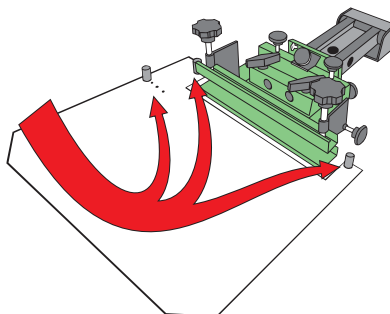

Figure 22: Install the pallet jig onto your press. Note the jig has screen stops that match the stops on the Exposit exposure unit.
8. The next part of the system uses a pallet jig. This is snapped on top of the standard pallet. It provides the same three stops that were on the glass of the exposing unit or the universal pin board. (Figure 22)